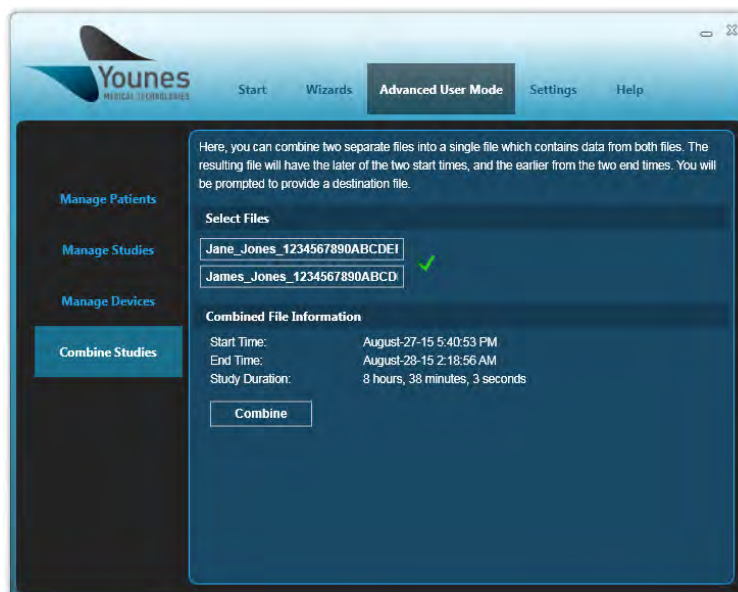

Figure 102 – Windows PC Prodigy Application Successful Combination Screen (Combine Studies)
11. When the combination is complete, the screen will appear as shown in Figure 102.